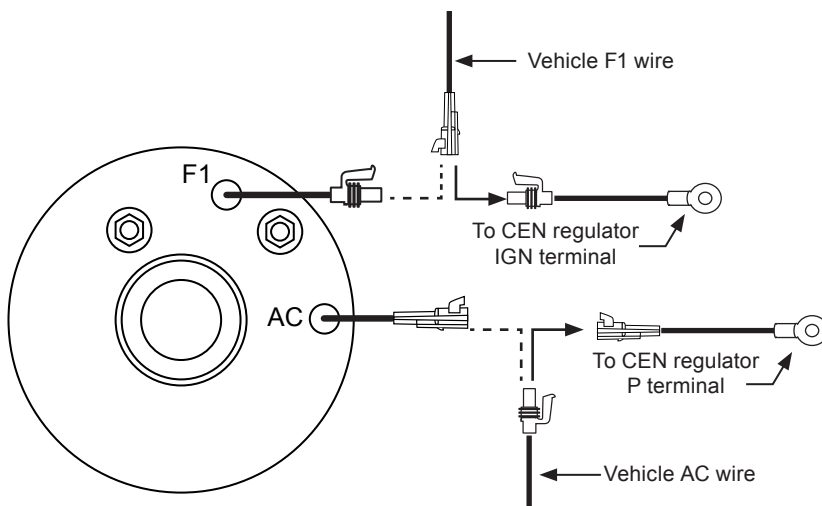

Figure 7: Reuse Existing FLD wire for IGN and AC wire from EMP or Similar
- If replacing **EMP or similar** alternator: Remove connectors from F1 and AC pigtails on alternator (see Figure 7).